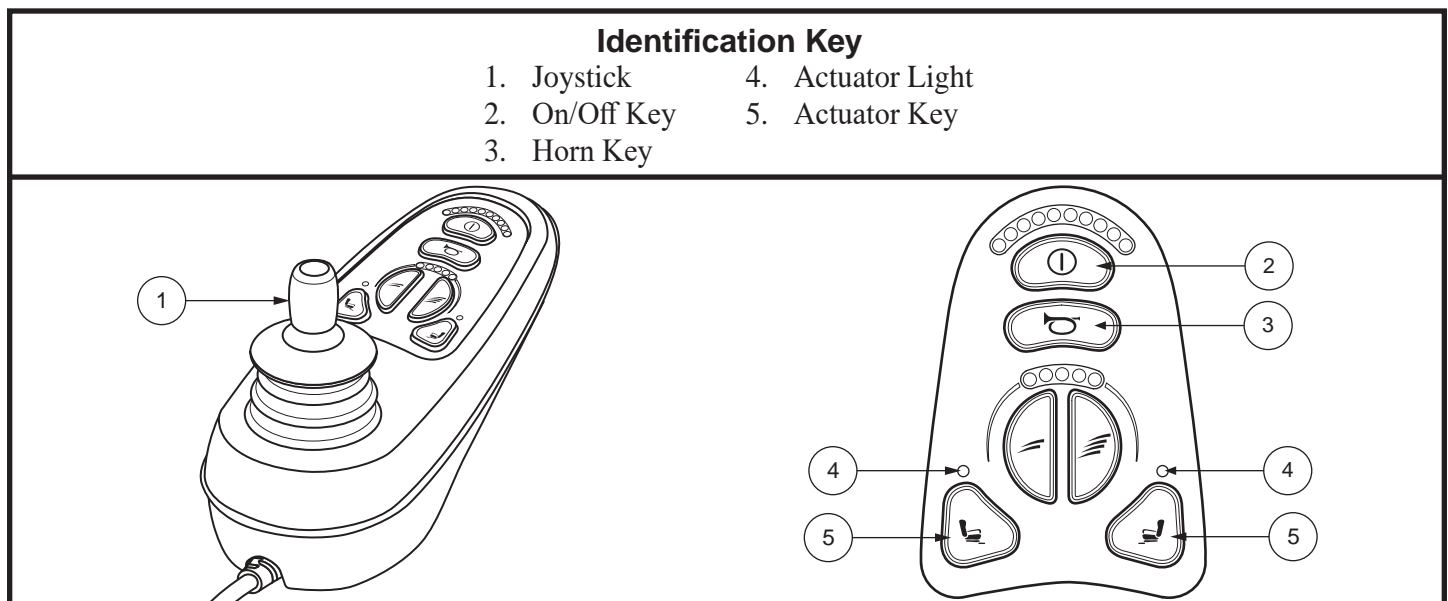

Figure 13. VR2 6-key Controller and Keypad
1. Push the on/off key to power on the chair and the controller. See figure 13.
2. Push the desired actuator key to select actuator mode. See figure 13.
5. Push the on/off key to return to drive mode. See figure 13.